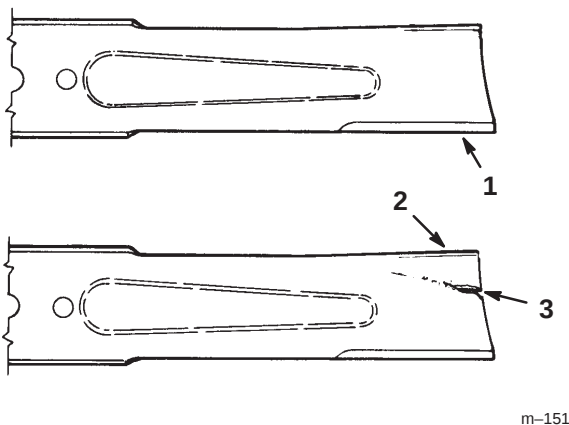

Figure 38
1. Inspect the cutting edges (Fig 38). If the edges are not sharp or have nicks, remove and sharpen the blades. Refer to Sharpening the Blades on page 35.
2. Inspect the blades, especially the curved area (Fig. 38). If you notice any damage, wear, or a slot forming in this area (item 3 in Fig. 38), immediately install a new blade.